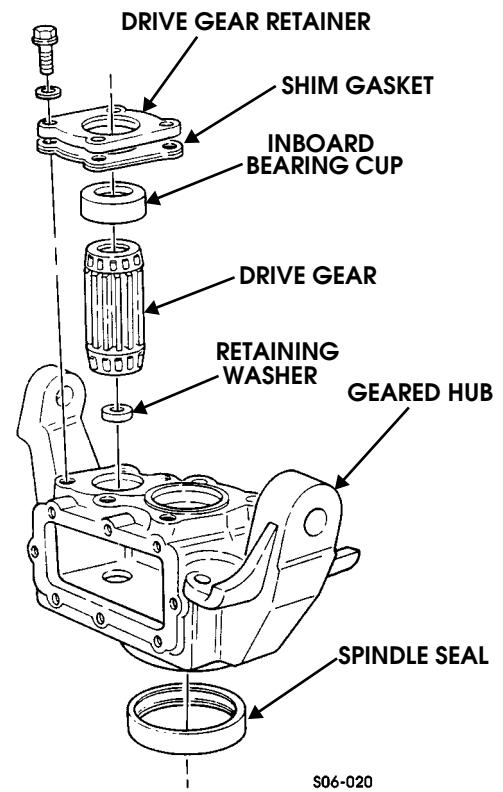

Figure 9-24: Drive Gear Removal
- Remove four bolts, washers, drive gear retainer, shim gasket, inboard bearing cup, and drive gear from geared hub (Figure 9-24).